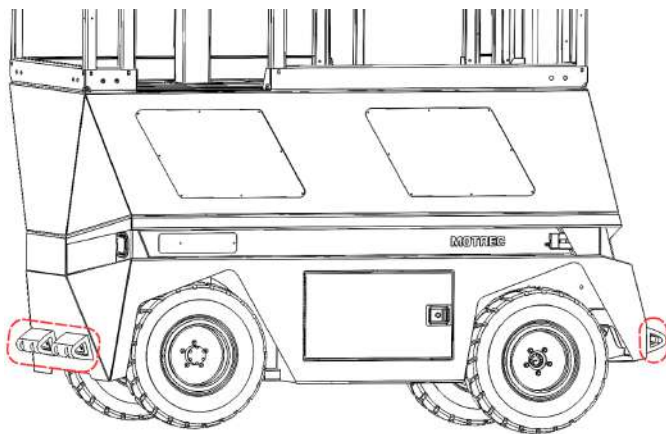

Figure 35. Front And Rear Bumpers.
- Front and rear bumpers. (see Figure 35).